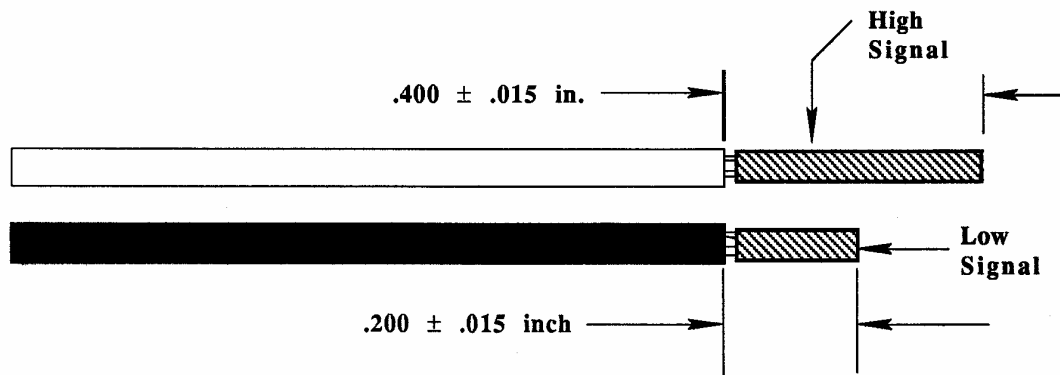

Figure 5-13. Cable Conductor Trimming Dimensions
13. Unless otherwise specified, trim the signal and ground conductors as shown in Figure 5-13.